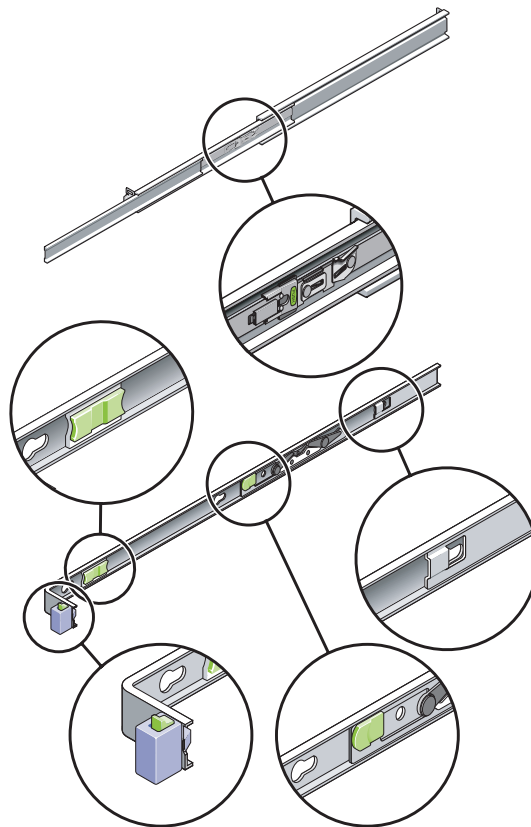

FIGURE 1-4 Locating the Locks on the Slide Rail Assembly
- There are five locks (FIGURE 1-4) in a slide rail assembly. Four locks are on the mounting bracket. One lock is on the front section of the slide rail.